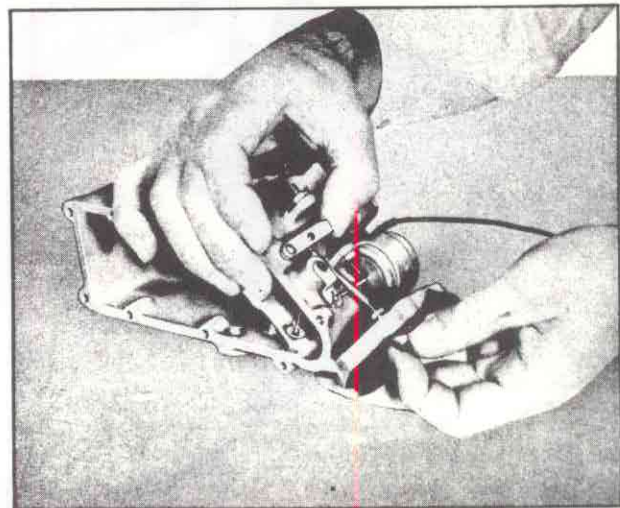

Figure 44
- Install power diaphragm. Hook rod into the enrichment lever with end pointing outwards (fig. 44). Secure with horseshoe clip.